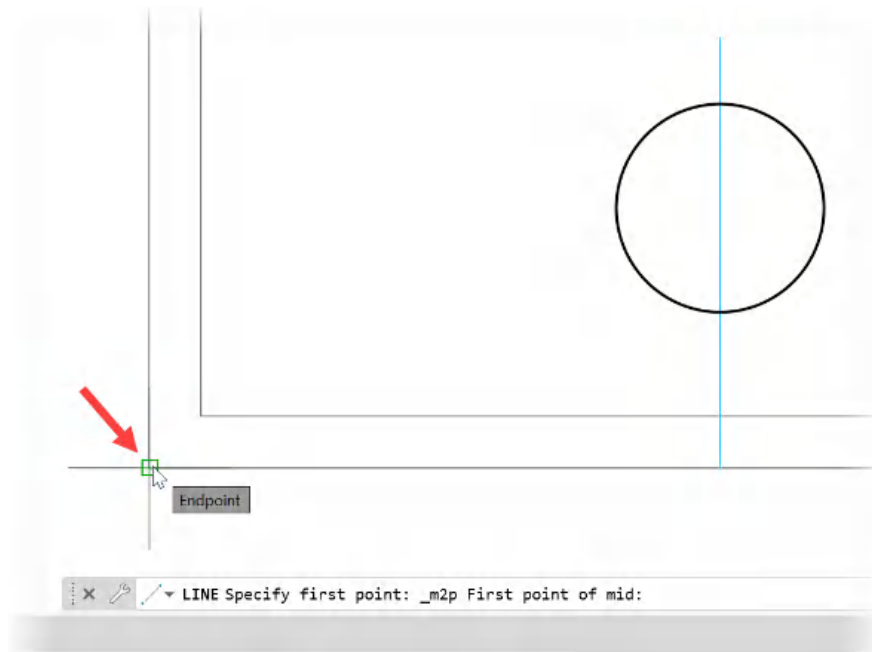

Figure 5.21: The first midpoint is the Endpoint Osnap shown (arrowed)
4. Click on the **Endpoint** Osnap shown in *Figure 5.21*. This will be the first midpoint: